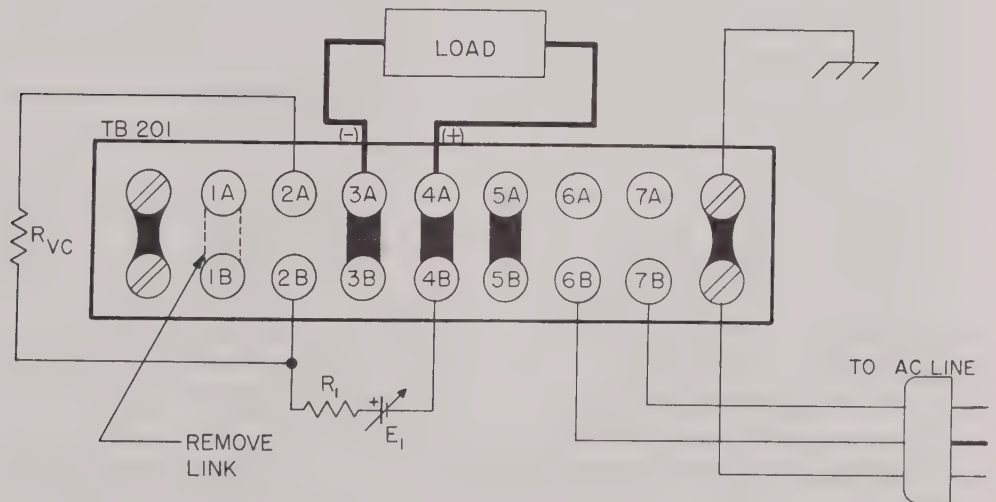

FIG. 3-5 CONNECTIONS FOR VOLTAGE PROGRAMMING
- b) Connect the selected components as shown in FIG. 3-5.